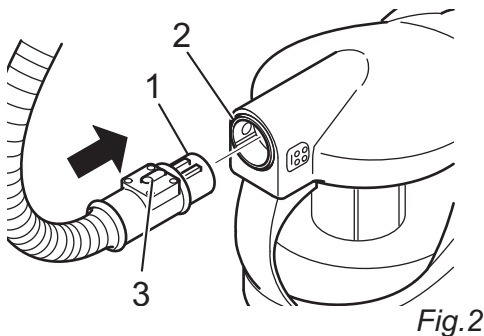

Fig. 2
1. Push the end of the suction hose (Fig. 2/1) into the connection point (Fig. 2/2) of the cylinder vacuum cleaner until the lock audibly clicks into place. Make sure that the release button (Fig. 2/3) points up.